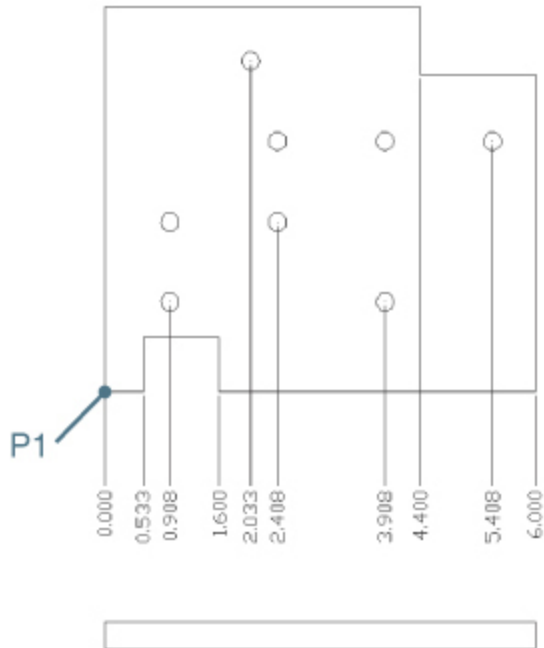

Figure 13-40
- 4 Choose the **datumPoint** option and pick the endpoint P1 shown in Figure 13-40. AutoCAD prompts you to *Specify dimension line position or =*.
- 6** Place the X-datum dimensions as shown in Figure 13-40. AutoCAD prompts you to *Specify dimension line position or =*.